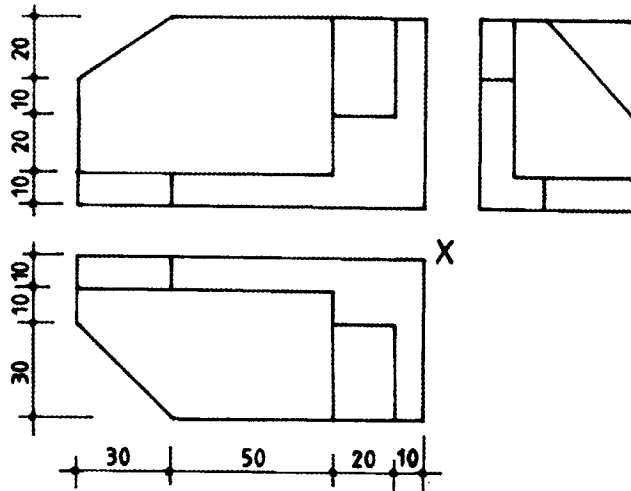

Figure 5
- 11 Figure 5 shows three views of a block drawn in first angle orthographic projection.